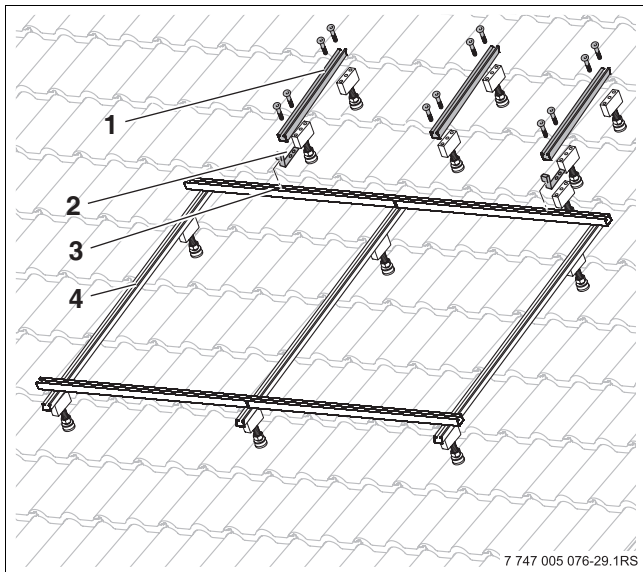

Fig. 31 Securing cylinder profile rails
- Push centre cylinder profile rail (Fig. 31, [1]) onto TSS joiner on centre collector profile rail and secure with M8x20 screws and M8 nuts.
- Secure positioning bracket (Fig. 31, [2]) to the side cylinder profile rails [1] using screws and nuts.
- Hook the two side cylinder profile rails (Fig. 31, [1]) into the flat roof/rooftop profile rail [3].
- Secure cylinder profile rails (Fig. 31, [1]) with two screws each to the support block.